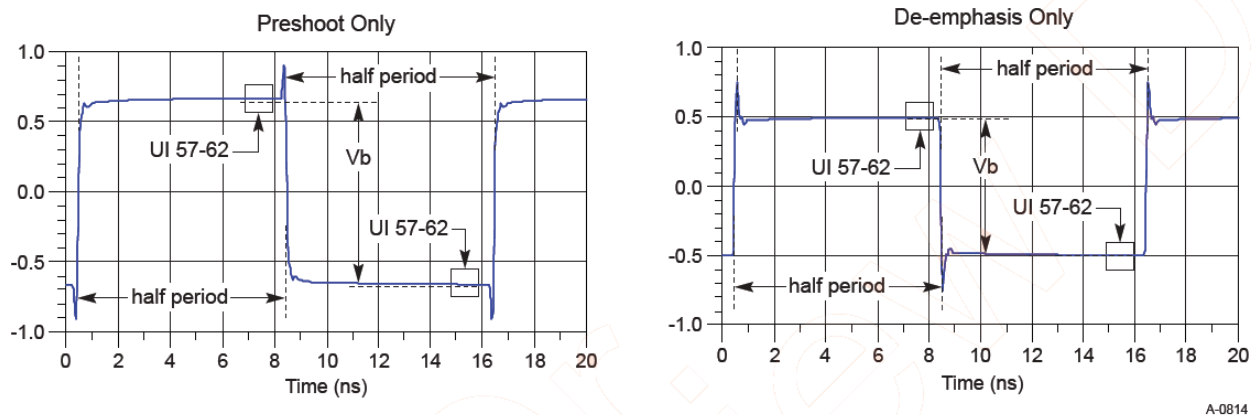

Figure 103 Waveform measurement points for preshoot and de-emphasis
8.0 GT/s, 16.0 GT/s and 32.0 GT/s PCIe signaling must support the full range of presets given in Table 8-1 (PCIe Base Specification Revision 5.0). Presets are defined in terms of ratios, relating the pre-cursor (V_c) is referred to as pre-shoot, while the post-cursor (V_b) is referred to as de-emphasis. This convention permits the specification to retain the existing 2.5 GT/s and 5.0 GT/s definitions for Tx equalization, where only de-emphasis is defined, and it allows preshoot and de-emphasis to be defined such that each is independent of the other. The tolerances in Table 8-1 (PCIe Base Specification Revision 5) also apply to 2.5 and 5.0 GT/s de-emphasis. The maximum swing, V_d , is also shown to illustrate that, when both c_{+1} and c_{-1} are nonzero, the swing of V_a does not reach the maximum as defined by V_d . The high frequency nature of PCIe signaling makes measurement of single UI pulse heights impractical. Consequently all amplitude measurements are made with low frequency waveforms as shown in Figure 103.